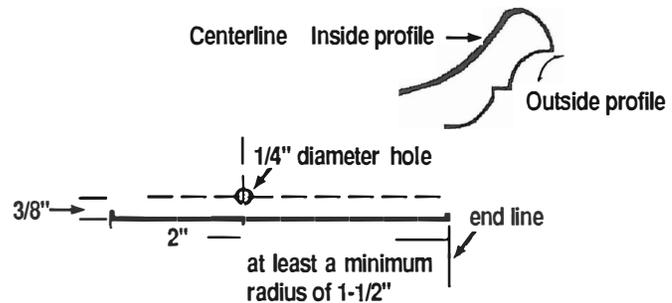

Fig. C-3
- For **faceplate turning** (bowls or cups, etc.), Use a flat template only. A faceplate template and a side view of its finished bowl are shown in Figs. C-3 and C-4.